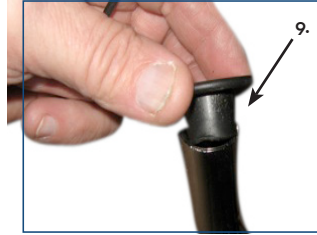

figure 9
9. Remove the protective cap from the tray bracket. (figure 9)